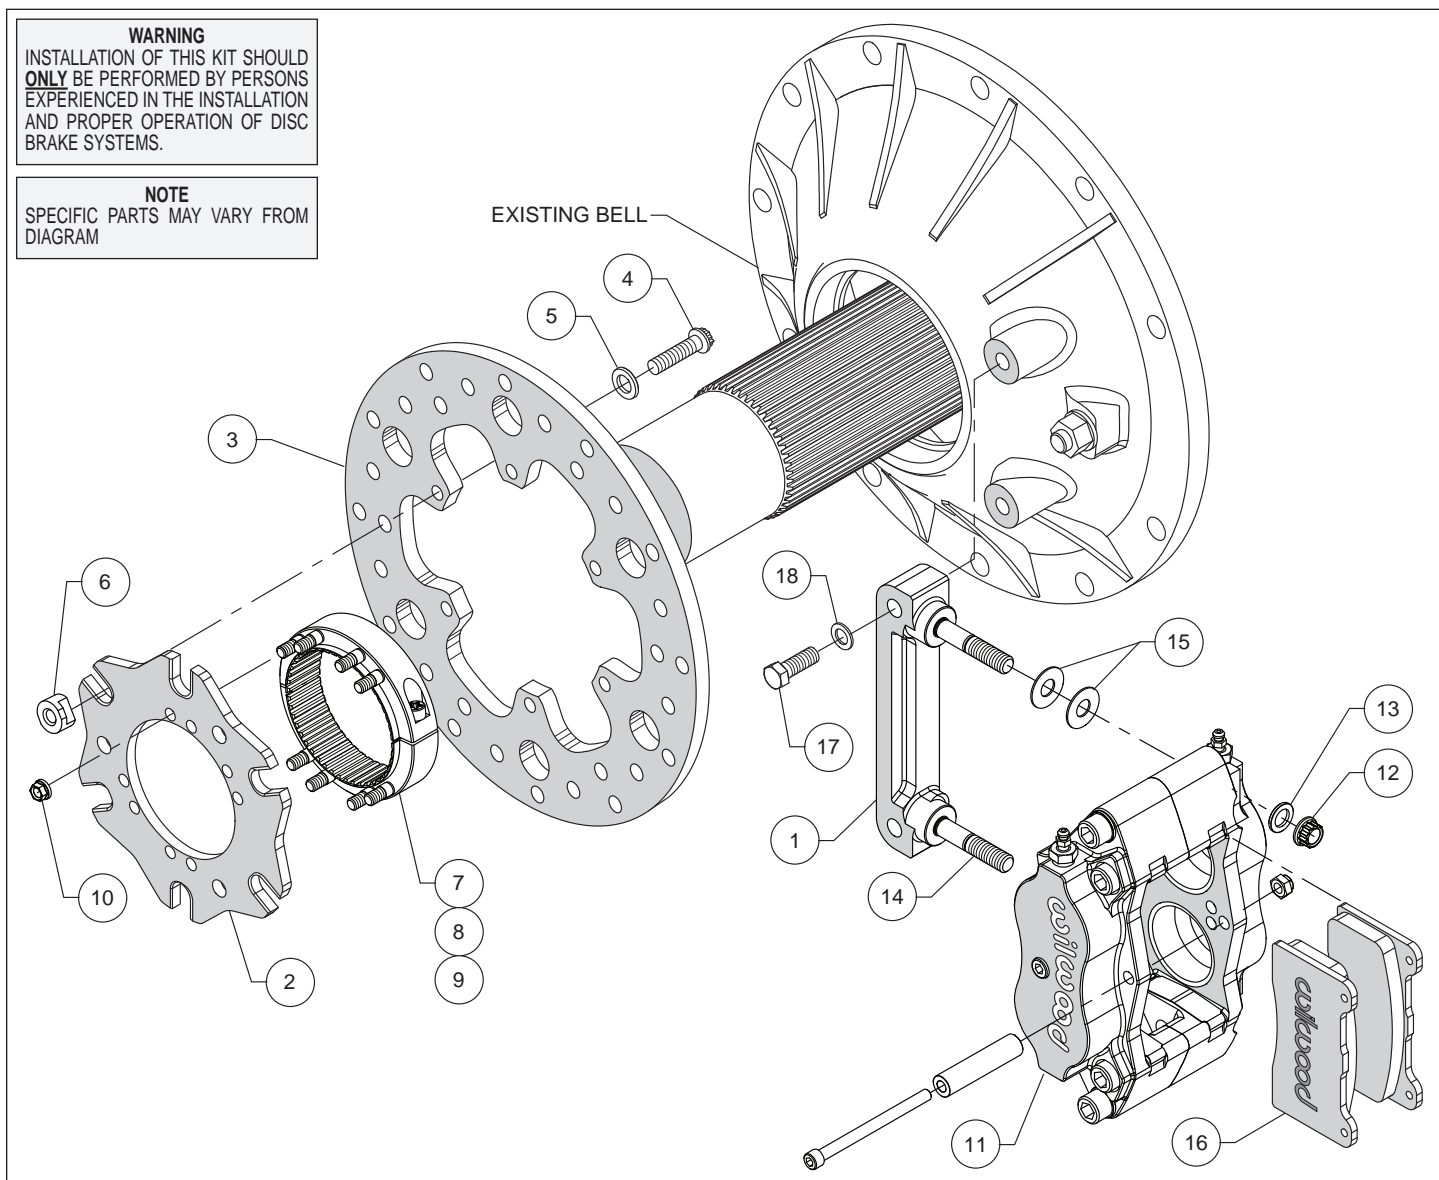

Figure 1. Typical Installation Configuration
- Orient the bracket (1) as shown in Figure 1, and install using bolts (17), and washers (18). Temporarily tighten the mounting bolts. **NOTE:** The bracket must fit squarely against the mount bosses on the bell. Inspect for interference from casting irregularities, machining ridges, burrs, etc. Remove the bracket mounting bolts one at a time, apply red *Loctite*® 271 to the threads, and torque to 35 ft-lb.
- Orient the rotor adapter (2) and the rotor (3), as shown in Figure 1, and attach using bolts (4), washers (5) and t-nuts (6), Figure 1. Apply red *Loctite*® 271 to the threads before installing. Finger tighten. After all t-nuts have been installed, torque bolts in an alternating sequence to 220 **in-lbs**. Please refer to Wilwood's data sheet DS-669 (available at www.wilwood.com/Pdf/DataSheets/ds669.pdf) for complete t-nut bolt kit installation instructions.
- Orient the axle clamp assembly (7, 8 and 9, pre-assembled) as shown in Figure 1 and install onto the rotor adapter (2) using nuts (10). Tighten nuts part way while still allowing clamp-to-rotor movement. The nuts will be torqued later, after aligning the rotor. **NOTE:** *The axle clamp should be positioned inside of the rotor as shown in Figure 1, not offset, or outside of the rotor adapter.*
- Lubricate the caliper mounting studs (14) with lightweight oil. Initially place two .035" thick shims (15) on each stud as shown in Figure 1. Mount the caliper (11) onto the bracket (1) using lock nuts (12) and washers (13), Figure 1. Temporarily tighten the lock nuts and view the rotor through the top opening of the caliper. The rotor should be centered in the caliper. If not, slide the rotor/adapter assembly on the axle until the rotor is centered in the caliper. Tighten the clamp bolts (9) first, locking the clamp to the axle. Torque nuts (10) to 140 **in-lbs**.
- Remove the caliper center bridge pad retainer bolt, nut, and tube from the caliper. Insert the brake pads (16) into the caliper, with the friction material facing the rotor. Check that the top of the brake pad is flush with the outside diameter of the rotor. If not, adjust by adding or subtracting shims (15) between the caliper and the bracket. After the caliper pad height is set, torque the caliper lock nuts (12) to 30 ft-lb. Secure the brake pads in place with the center bridge pad retainer tube, bolt, and locknut. The locknut should be snug without play in the bolt or tube. Be cautious not to over tighten.